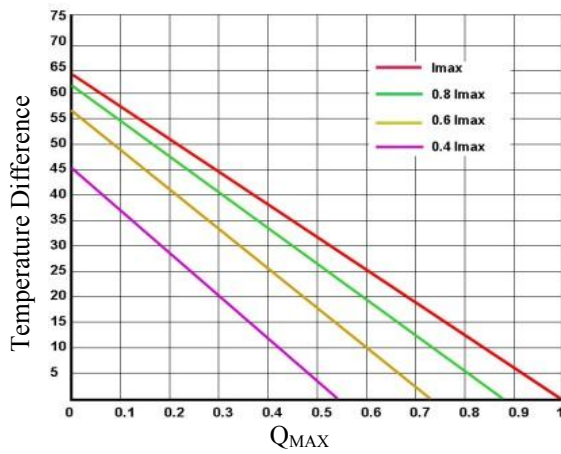
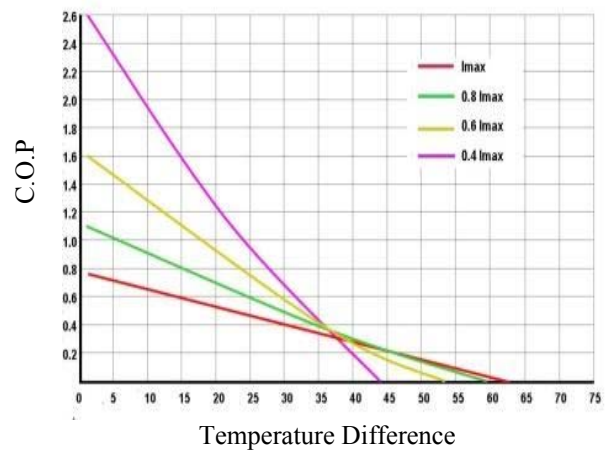
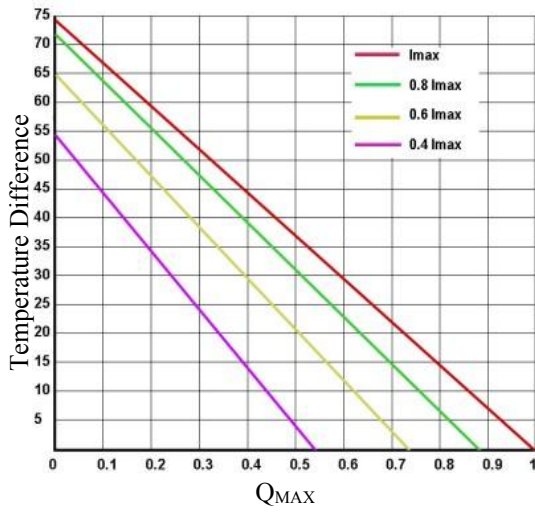
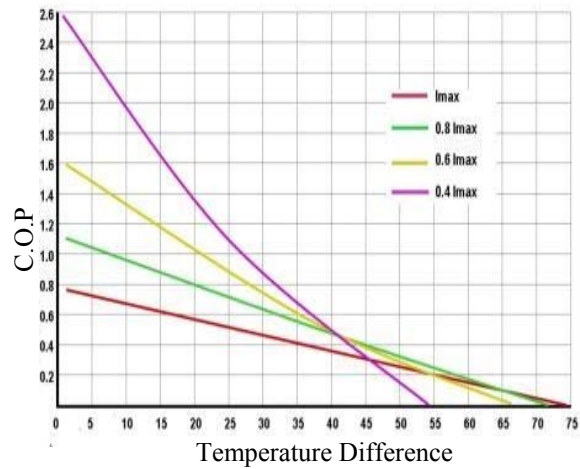

Figure 2. Temperature Difference vs. Q_{MAX}
Figure 5. C.O.P vs. Temperature Difference
Figure 6. Temperature Difference vs. Q_{MAX}
Figure 9. C.O.P vs. Temperature Difference
5. Use the charts provided in Figure 2 to Figure 5 and Figure 6 to Figure 9, to decide which TEC to use, what is the heat needed to be dumped through the heat sink, what is the heat sink temperature, etc.